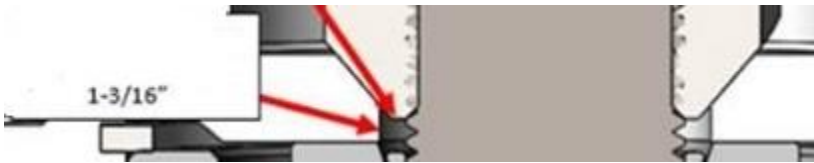

Figure 3
- Figure 3 shows the larger hole in the stabilizer.